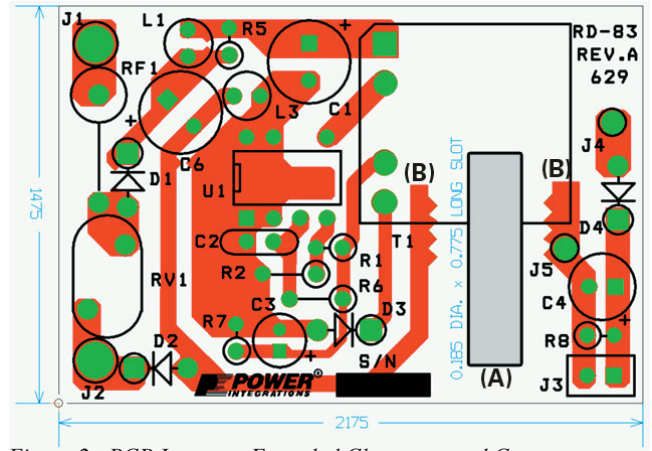

Figure 2. PCB Layout – Extended Clearance and Creepage Provided by Slot (A). Spark Gap Provided to Route High Currents Back to Input and Around Electronics (B).
Elimination of the optocoupler and Y1 capacitor allowed the necessary printed circuit board (PCB) clearance and creepage to be obtained to withstand a 10 kV surge. The use of triple insulated wire for the secondary winding that terminates onto the PCB as flying leads (J4 & J5) allows the necessary creepage from primary to secondary. Figure 2 shows the PCB layout.
- Provide a path for surge discharge currents to go around sensitive electronic components (see spark gap (B) in Figure 2).